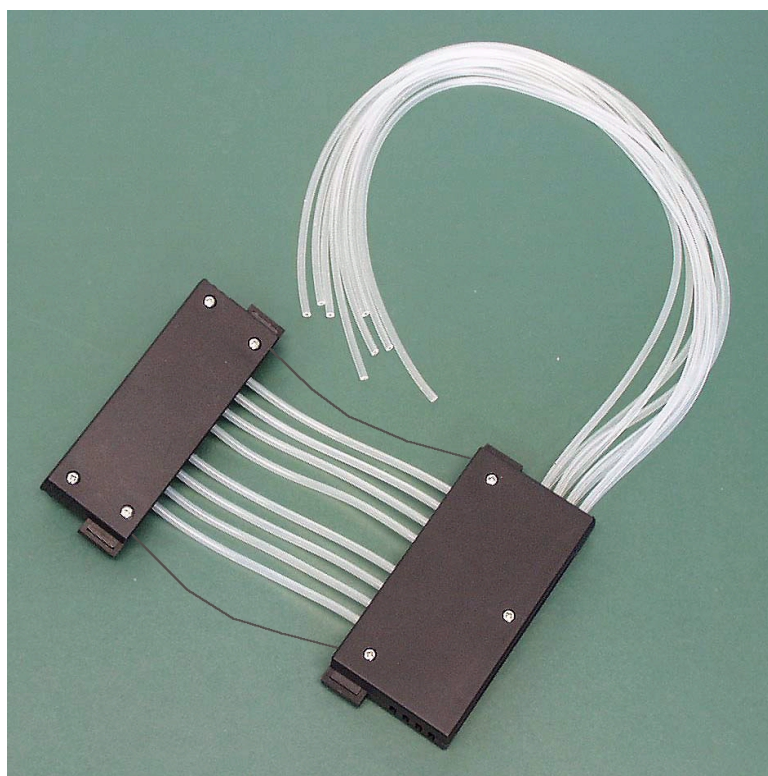

Fig. 7.31 Lower and upper part of the dispensing cassette fitted
16. Fasten the front cover retaining screw (*Fig. 7.31*). *Continued below.*